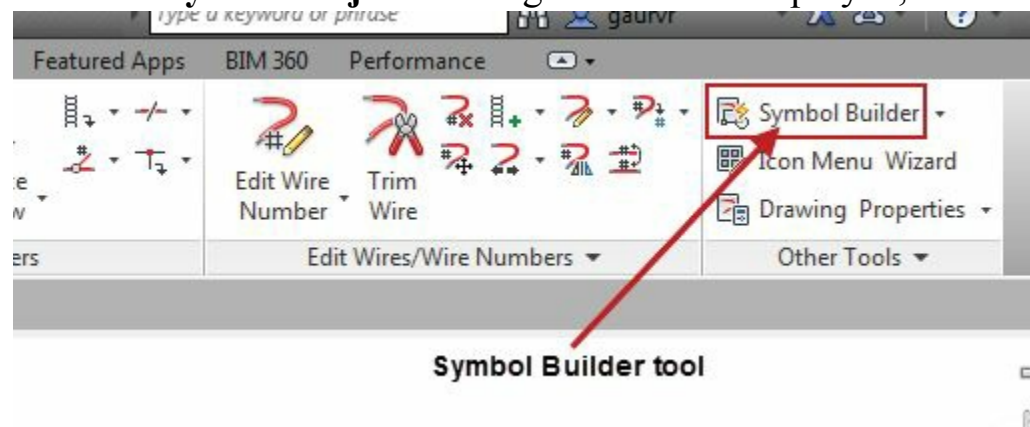
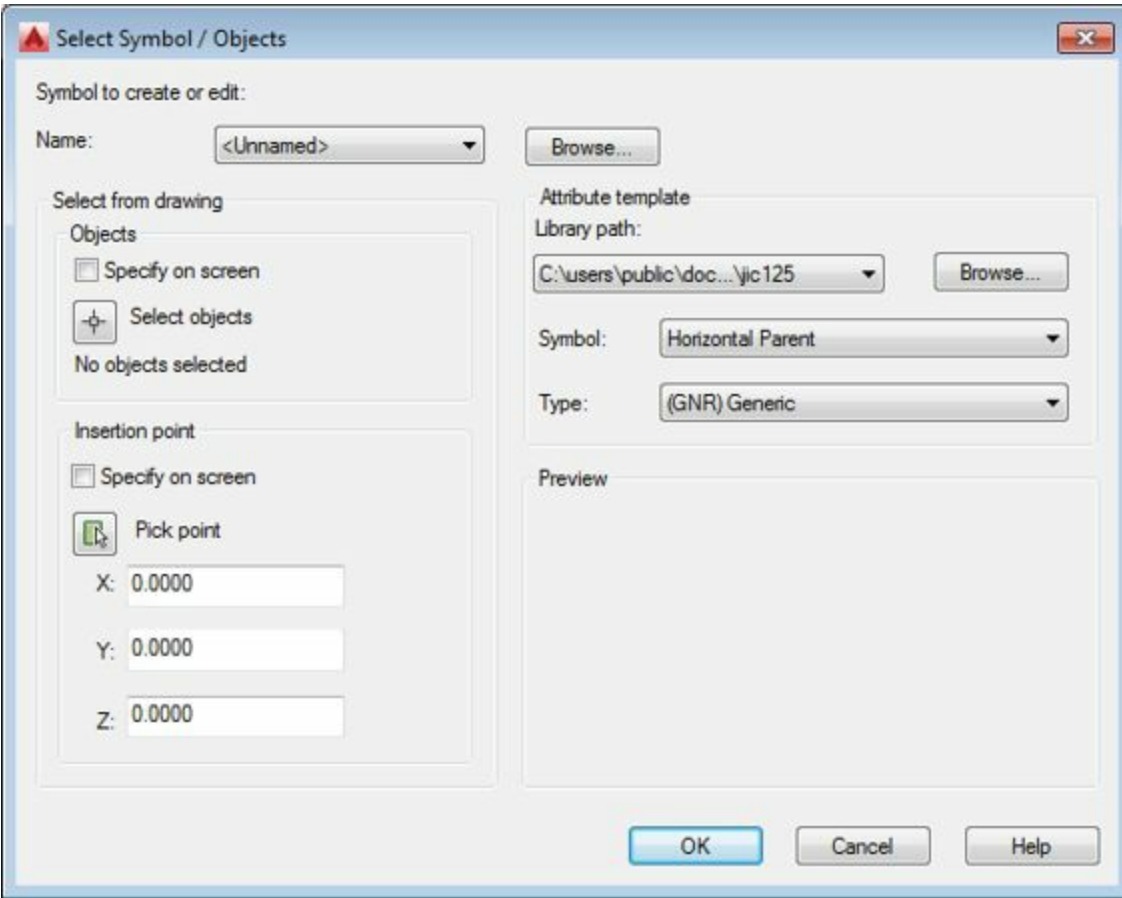

Figure-39. Symbol Builder tool
Figure-40. Select Symbol or Objects dialog box
- Click on the **Symbol Builder** tool from the **Other Tools** panel in the **Ribbon**; refer to Figure-39. The **Select Symbol/Objects** dialog box will be displayed; refer to Figure-40.